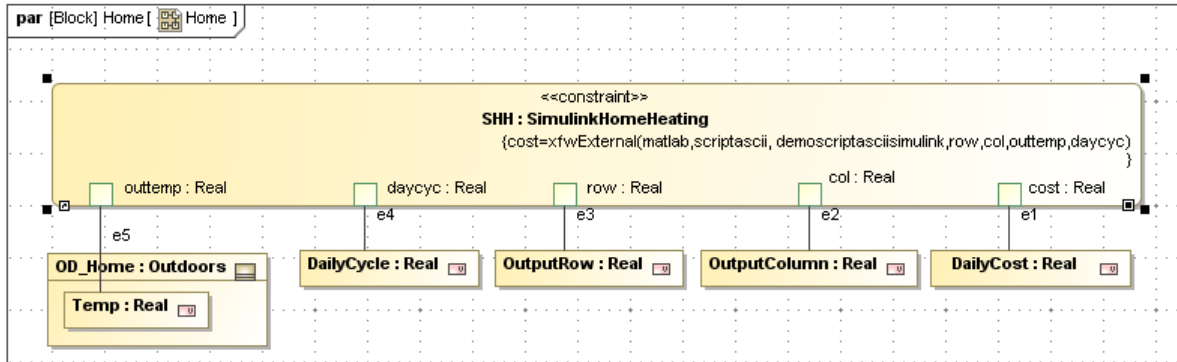

Figure 7.4 Parametric diagram for Home
8. Create the parametric diagram shown in Figure 7.4 inside the block Home. The constraint block contains the MATLAB script *demoscRIPTasciisimulink*, which launches the Simulink model *s234sldemo_househeat_SE.mdl*. Note that the value Temp calculated by the MATLAB function *annualcycle* is one of the inputs to the Simulink model.